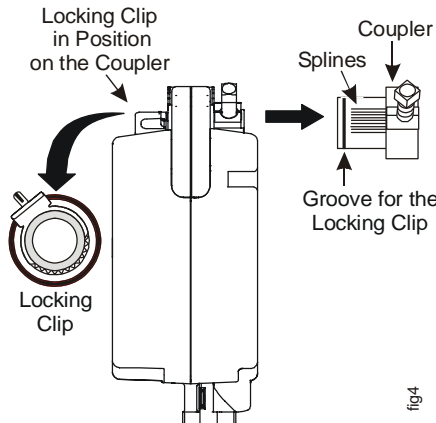

Figure 4: Changing the Position of the Coupler
To change the position of the coupler, see Figure 4 and proceed as follows:
Note: The coupler teeth illustrated in Figure 4 are designed to prevent insertion of the coupler in the wrong angular position.
3. Pull the locking clip off the coupler as illustrated in Figure 4.